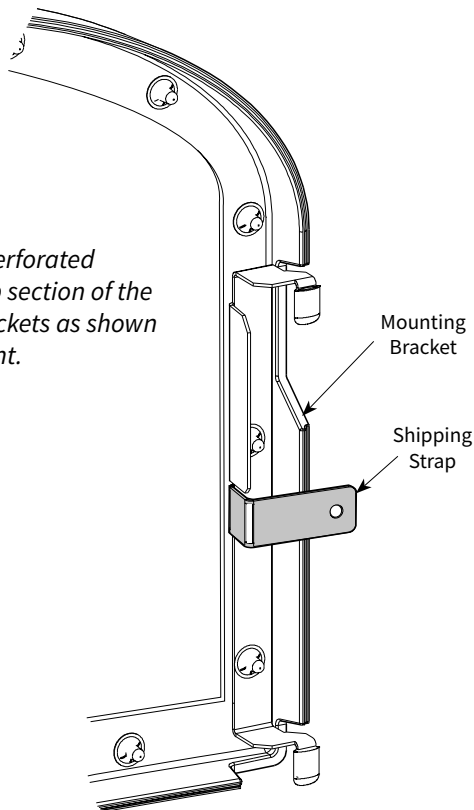

Figure 2.1.
- SAFETY BARRIER SCREEN:** This appliance is equipped with a Certified Barrier Screen that must be installed before operating the unit. It is secured to the shipping pallet. Remove those two screws and use pliers to break off each entire perforated sections from both screen frame attachment brackets. See fig. 2.1.